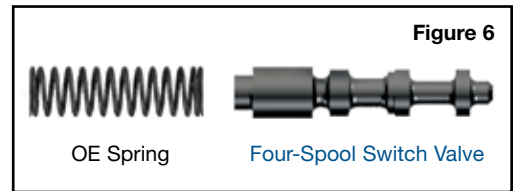

Figure 6
Step 7 Install Oversized Four-Spool Switch Valve (Figure 6)